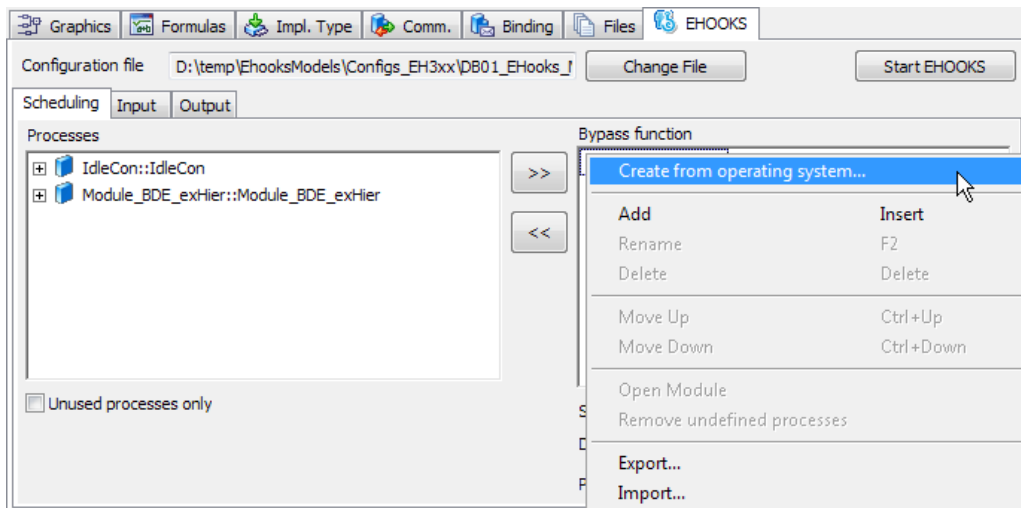

Figure 3.26: Copying an existing configuration from another target
2. In the "Scheduling" sub-tab, right-click in the "Bypass function" field and select **Create from operating system** from the context menu (see Figure 3.26 on the next page).